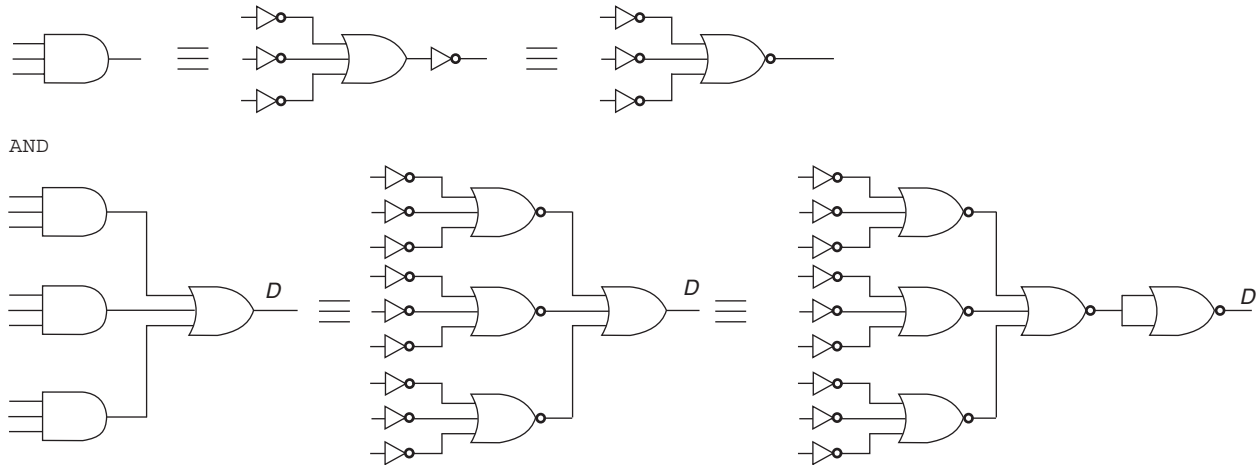

Fig. 5.42 Inversion of AND-OR to 'NOR Only'.
5.67 A manipulation similar to that given in the previous example can be used to implement functions using only NOR gates. Explain. (See Fig. 5.42)